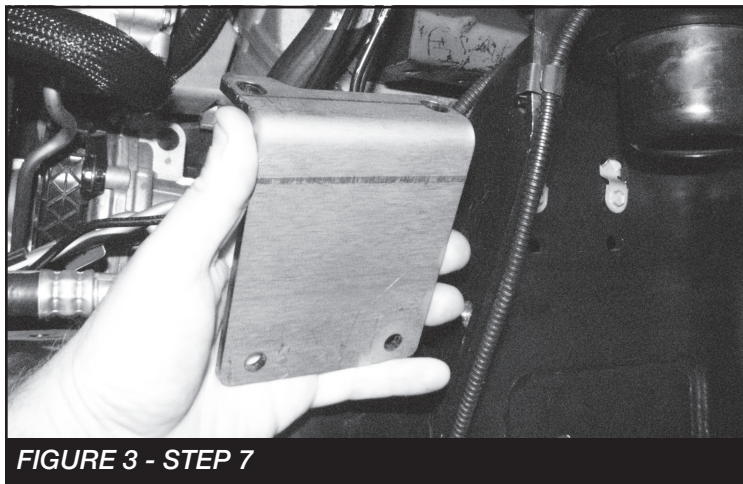

FIGURE 3 - STEP 7
7. **2017-2019 Models** - Locate and install FT30664 (ABS Bracket) in the same location as the factory bracket previously removed using the factory nuts on the spring perch and the supplied 3/8" X 1-1/4" hardware. Torque to 52 ft-lbs. **SEE FIGURE 3**